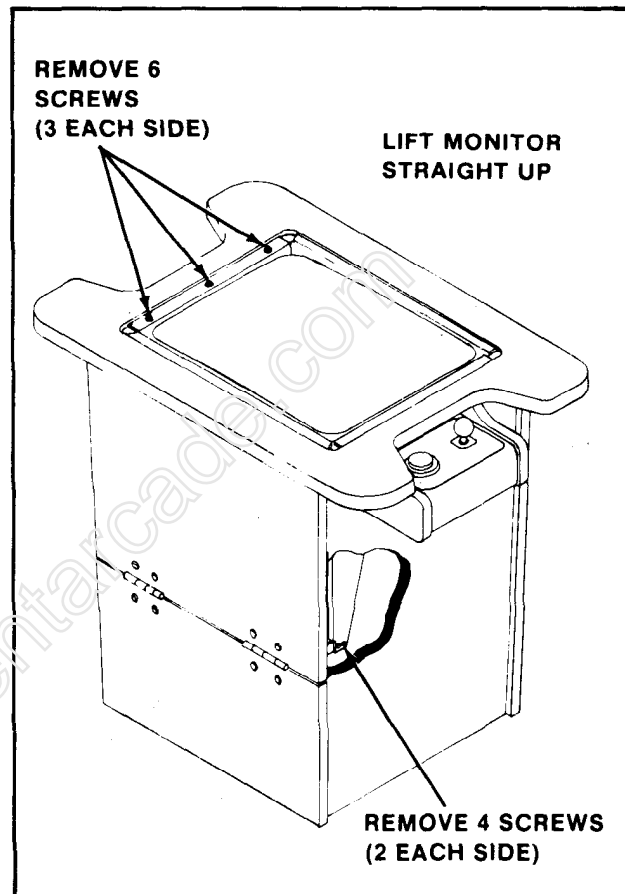

Figure 2-18 Removing the Monitor - Cocktail
### 2.7.3 COCKTAIL TABLE MODEL: (See Figure 2-18)
- ☐ Remove the screws holding the T.V. monitor chassis to the "L" by the door hinge(s). See Figure 2-18.
- ☐ Remove the screws which secure the T.V. monitor mounting brackets to the edges of the slot cut in the table top. See Figure 2-18.